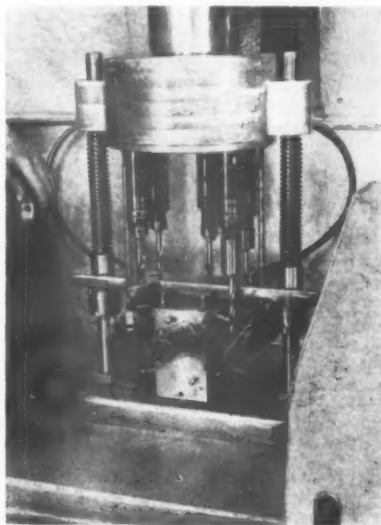
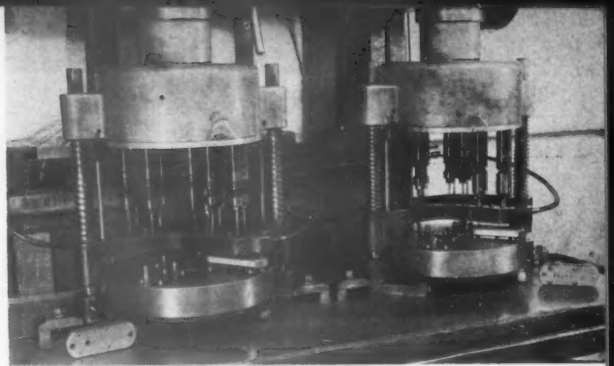

Fig. 1. Single Spindles
Fig. 2. Groups of Spindles
The uppermost of the three elements referred to above is the multiple spindle head (made by several reputable firms throughout this country), which simply distributes, by spur gearing, the drive from the main drill spindle to a number of small drill spindles arranged in the proper positions for the job in hand. This arrangement may be in the simplest case (Figure 1) on the corners of a triangle.
square, pentagon, or other regular figure, where the operations are performed on one hole only of the work. Figure 1 shows the spindles arranged on corners of a hexagon, one spindle omitted for loading position. The second and more complicated arrangement is where groups of spindles are arranged around each of the corners of the triangle, square, or pentagon, and is illustrated in Figure 2, which shows a group of spindles arranged about each of the corners of a square, with one group omitted for a loading position. The gearing in this head may be laid out for the proper speed for each small spindle according to the tool therein. The head is equipped with bushed lugs for aligning with the lower elements.
The next element beneath the multiple spindle head is the jig bushing plate, which is bushed to slide on the vertical guide pins, and retain a fairly accurate relation to the multiple head, and the work. The bushing plate is the most accurate element, and fulfills two important functions; first, it locks itself to the work carrying plate by means of lock pin bushings, and second, it carries the drill jig bushings which locate the initial work of the drills and reamers. The jig is usually planned so that those operations which involve large chip volume are carried out without hindrance of a jig bushing. For instance in Figure 1, there is but one jig bushing in the spotting position, all other operations (in this case drilling by steps a hole $2\frac{3}{4}$ " deep in stainless steel) being carried on in the open. Likewise, in Figure 2, the spotting drills and sizing reamers are guided by bushings, but the through drills operate in large holes through the jig plates. A secondary purpose of the jig plate is to distribute coolant by means of internal drilled passages, ending in small nozzles at each drill, and fed by hose from the main pump.
The lowest element of the "merry-go-round" is the work holder, from which this jig gets its name. The work holder has locating points for the work (nicely shown in Figure 2), upstanding bullet pins for locking itself to the jig bushing plate, a central pivot, and can whirl merrily on a row of $\frac{3}{4}$ " steel balls tucked away under that smooth skirt shown in Figure 2. The steel balls are retained in a turned Vee groove in the base plate. Base plate also carries the two pillar posts.
The work is clamped in Figure 1 jig by a knurled knob and strap. In Figure 2, clamping is automatic on the down feed by reason of the springs on the pillar posts, which urge the jig bushing plate against the work.
The Figure 2 jigs operate on a similar cycle, the left hand jig (1) spot and drill body size, (2) drill tap size (3) ream body size; and the right hand jig (1) spot and drill body size (2) ream body size (3) counterbore for head of screw. Work pieces are shown to left and right respectively of the jigs.